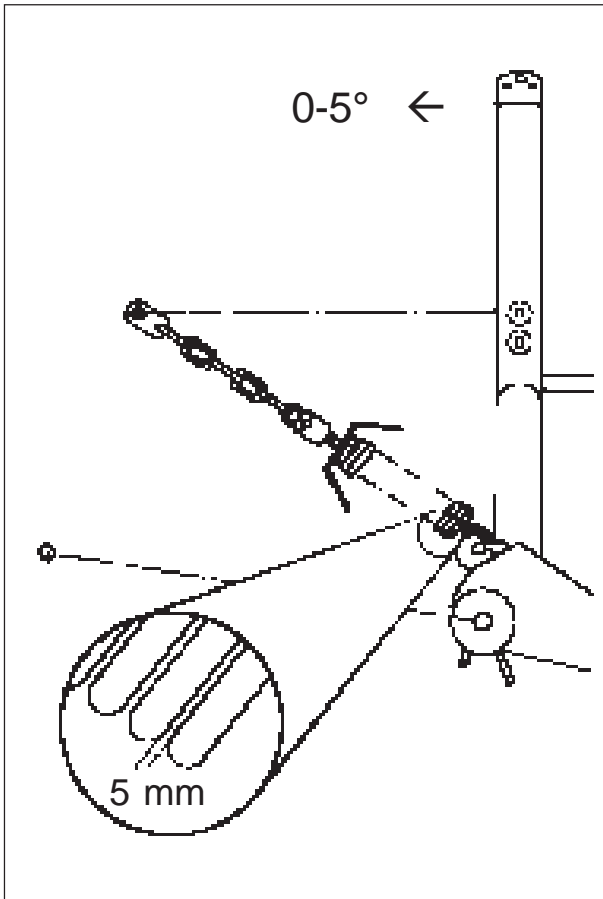

Fig. 44
- c. Connect the top stay and adjust the length to ensure that the machine turret is slightly inclined *forwards*. See fig. 44. This is important for the machine to work smoothly and in order to avoid damage to the pick-up unit and the first web. When the top stay and the drawbars are as much in parallel as possible, the tractor has the maximum lifting capacity.
- f. Lift the machine. Fasten the suspension springs to the harvester turret. Normally, the outer hooks are used. If there is a need to shift the machine to the left or to the right (for adjustment of the distance between tractor wheel and share rollers), the springs must be fastened unsymmetrically and tightened differently. Connect spring and chain and tighten to leave approx. 5mm clearance between the spring windings when the machine is standing on the ground. See fig. 44. **NB! The main purpose of the suspension springs is to reduce the pressure on the roller disc.**